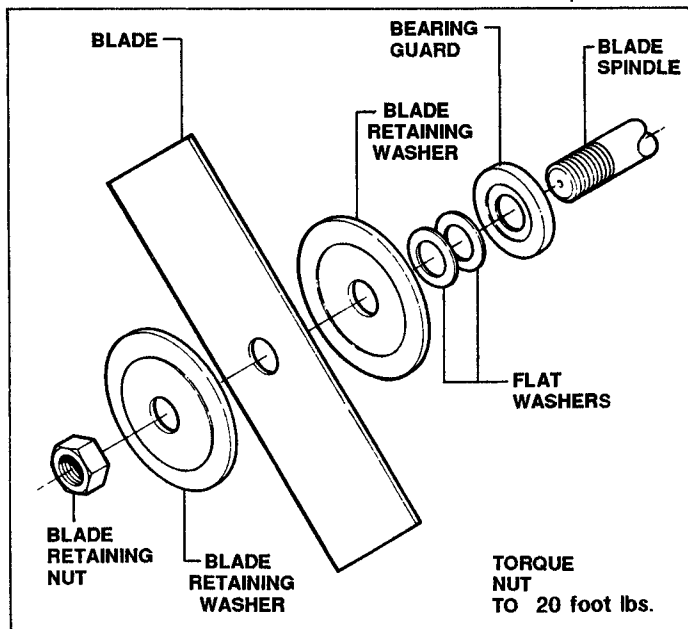

FIGURE 6
2. Replace blade according to sequence in Figure 6. When tightening blade, make certain proper torque of 20 ft. lbs. is achieved before any operation of the **SNAPPER EDGER/TRIMMER** is attempted.